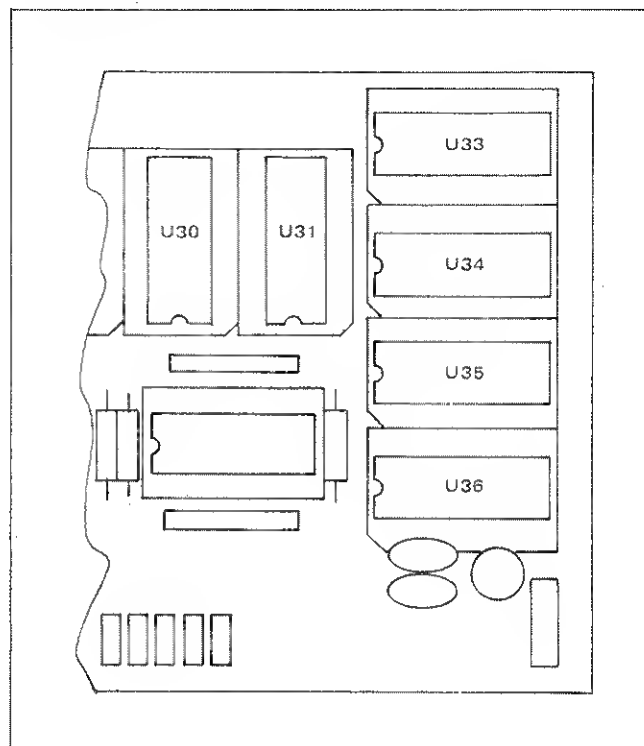

Figure 3.2 - ROM Location
- Remove the Computer III board (J7) from the 9000 and install the ROMs as shown in figure 3.2. Reinsert the Computer III board at J7.